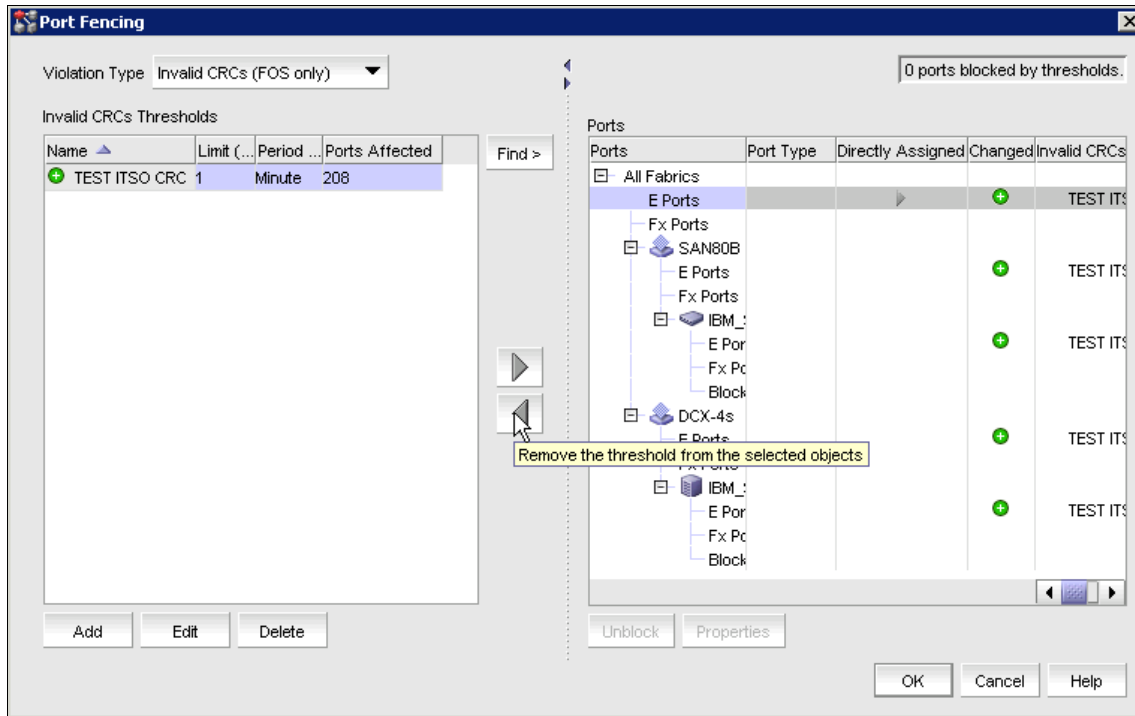

Figure 17-41 Port Fencing dialog box
3. Select the object with the threshold that you want to remove in the Ports table of the Port Fencing dialog box (Figure 17-41). Click the left arrow.